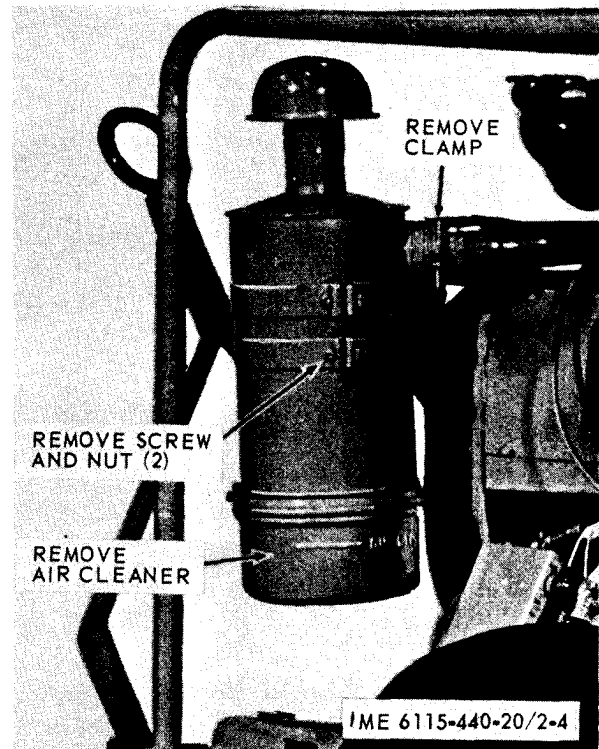

Figure 2-4. Air cleaner, removal and installation.
a. *Removal.* Refer to figure 2-4 and remove the air cleaner.
b. *Installation.* Refer to figure 2-4 and install the air cleaner.